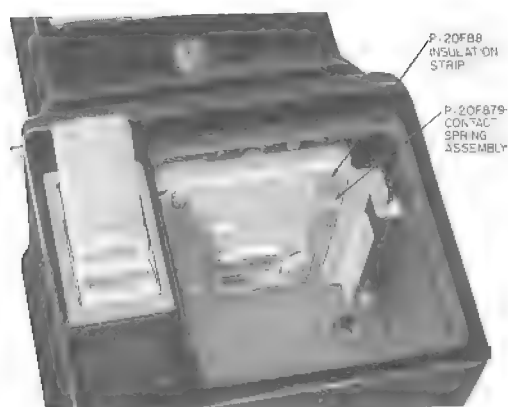
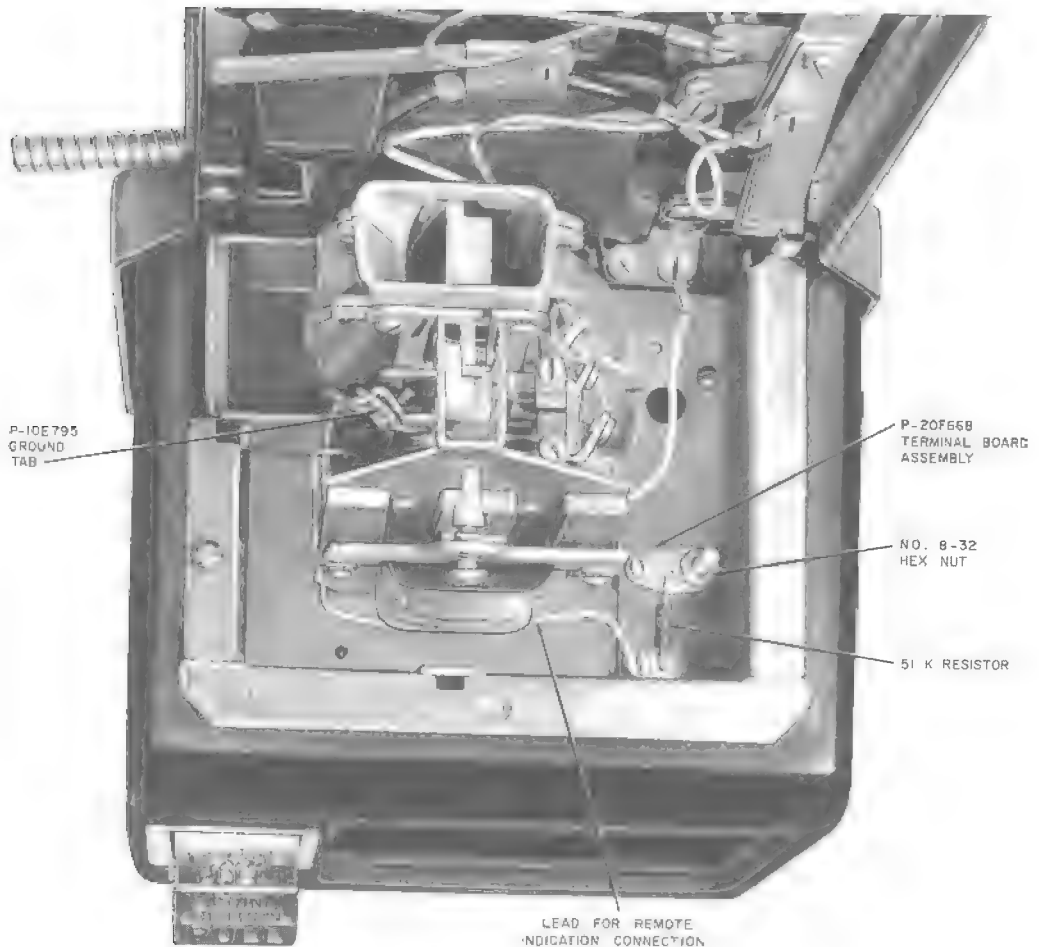

Fig. 7—Installation of Insulation Strip and Contact Spring Assembly
Fig. 8—Installation of Terminal Board Assembly
- (b) Thread (BK) and (Y) leads of chassis through hole on coin hopper. Connect (BK) lead to terminal 8 and (Y) lead to terminal G of coin relay.
- (8) Position the insulation strip against the 1B rail with the boss on the strip in the 1/4-inch mounting screw hole (Fig. 7). Hold the contact springs in place with the stud extending through the hole drilled in the base, and fasten the terminal board in place on the housing base with the nut provided (Fig. 8).
4.02 The lead provided with the D-180042 kit is equipped with a screw clamp to facilitate fastening to the ground tab (P-10E795) on the coin relay (Fig. 8). Care must be taken not to alter the adjustment of the coin relay by bending the spring member. Connect the spade tip of the lead to the front terminal on the terminal board.